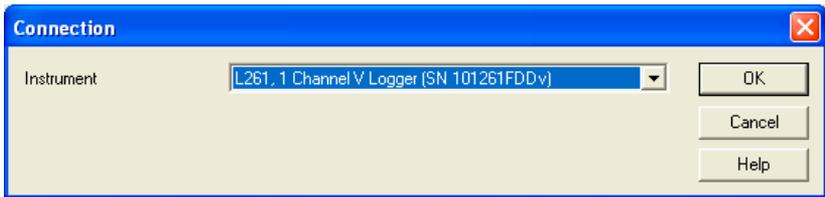

Figure 2-1
- The **Connection** window will appear (see Figure 2-1).